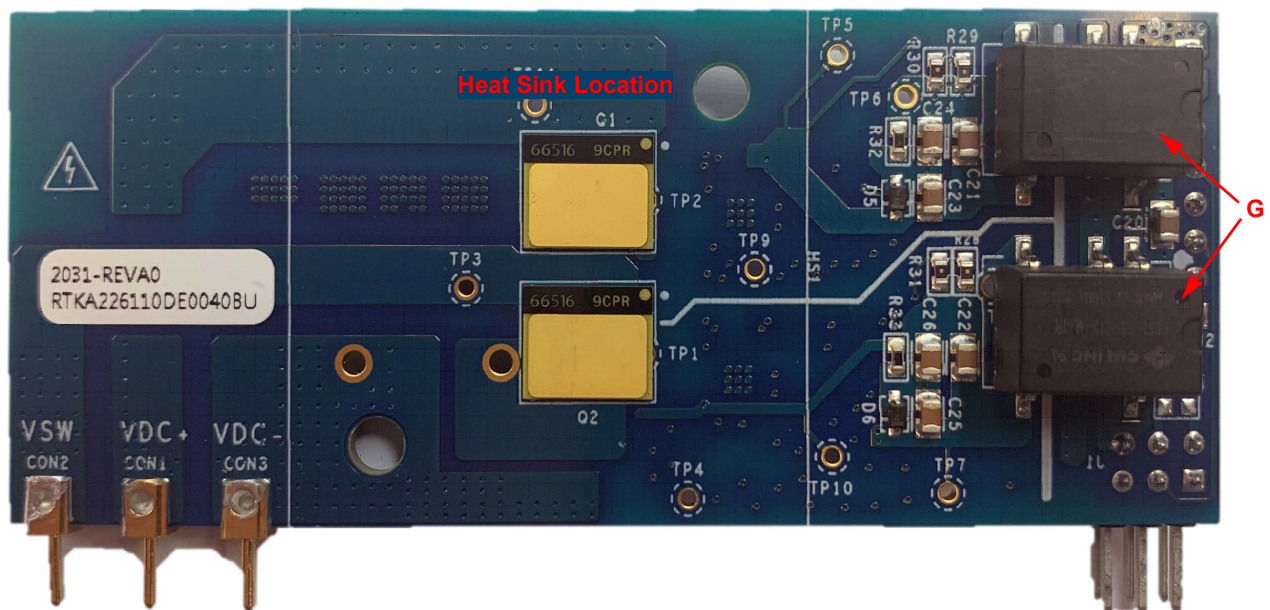

Figure 11. RTKA226110DE0040BU Bottom
- A thermal tape type TIM (Bergquist® Bond-Ply 100) is chosen for its easy assembly. The supplied heatsink has the thermal tape pre-applied so simply peel off the protective film and attach the heatsink to the back of board as marked in Figure 11.